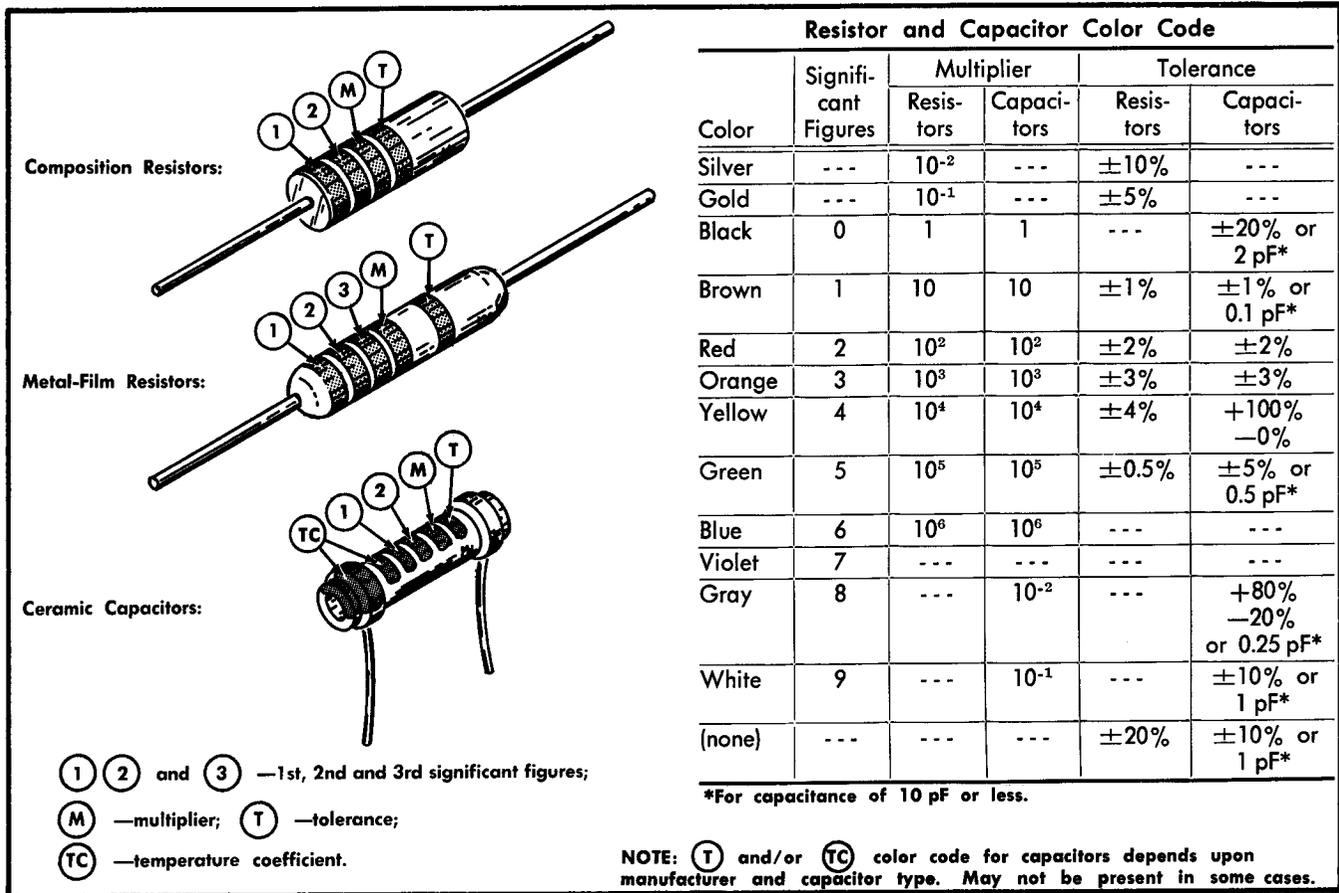

Fig. 4-1. Color-code for resistors and ceramic capacitors.
**Resistor Color Code.** In addition to the brown composition resistors, some metal-film resistors (identifiable by their gray body color) and some wire-wound resistors (usually light blue or dark gray) are used in the Type 576. The resistance value of a wire-wound resistor is printed on the body of the component. The resistance value of a composition resistor or metal-film resistor is color-coded on the component with EIA color-code (some metal-film resistors may have the value printed on the body). The color-code is read starting with the stripe nearest the end of the resistor. Composition resistors have four stripes which consist of two significant figures, a multiplier and a tolerance value (see Fig. 4-1). Metal-film resistors have five stripes consisting of three significant figures, a multiplier and a tolerance value.
**Capacitor Marking.** The capacitance value of a common disc capacitor or small electrolytic is marked in microfarads on the side of the component body. The white ceramic capacitors used in the Type 576 are color-coded in picofarads using a modified EIA code (see Fig. 4-1).